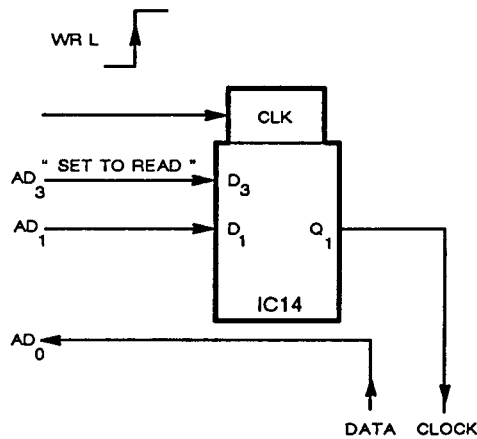

Fig. 4-5 Data reception (AA2/1)
57. In order to send information from A2/1 to AA2, microprocessor, data is clocked out from an eight bit shift register into a memory location in the processor's memory space. By rotating the bit addressed in the latter the serial to parallel conversion can take place. To realize this the arrangement on AA2/1 is slightly altered. Fig. 4-5 shows how this occurs. IC11, pin 2 is taken 'high' which disables IC10c. IC10b pin 13 is taken 'low' when appropriate to allow the data from A2/1 to have control over the data/address line AD0.
67. Both of these latches are configured as part of the memory address space, see Fig. 4-5, and are merely written to when frequency data is to be updated. IC8 provides the address decoding and controls the routing of the WR L path through IC9a and b. A positive edge transition on IC14 or IC15, pin 9 will transfer input data to the outputs.